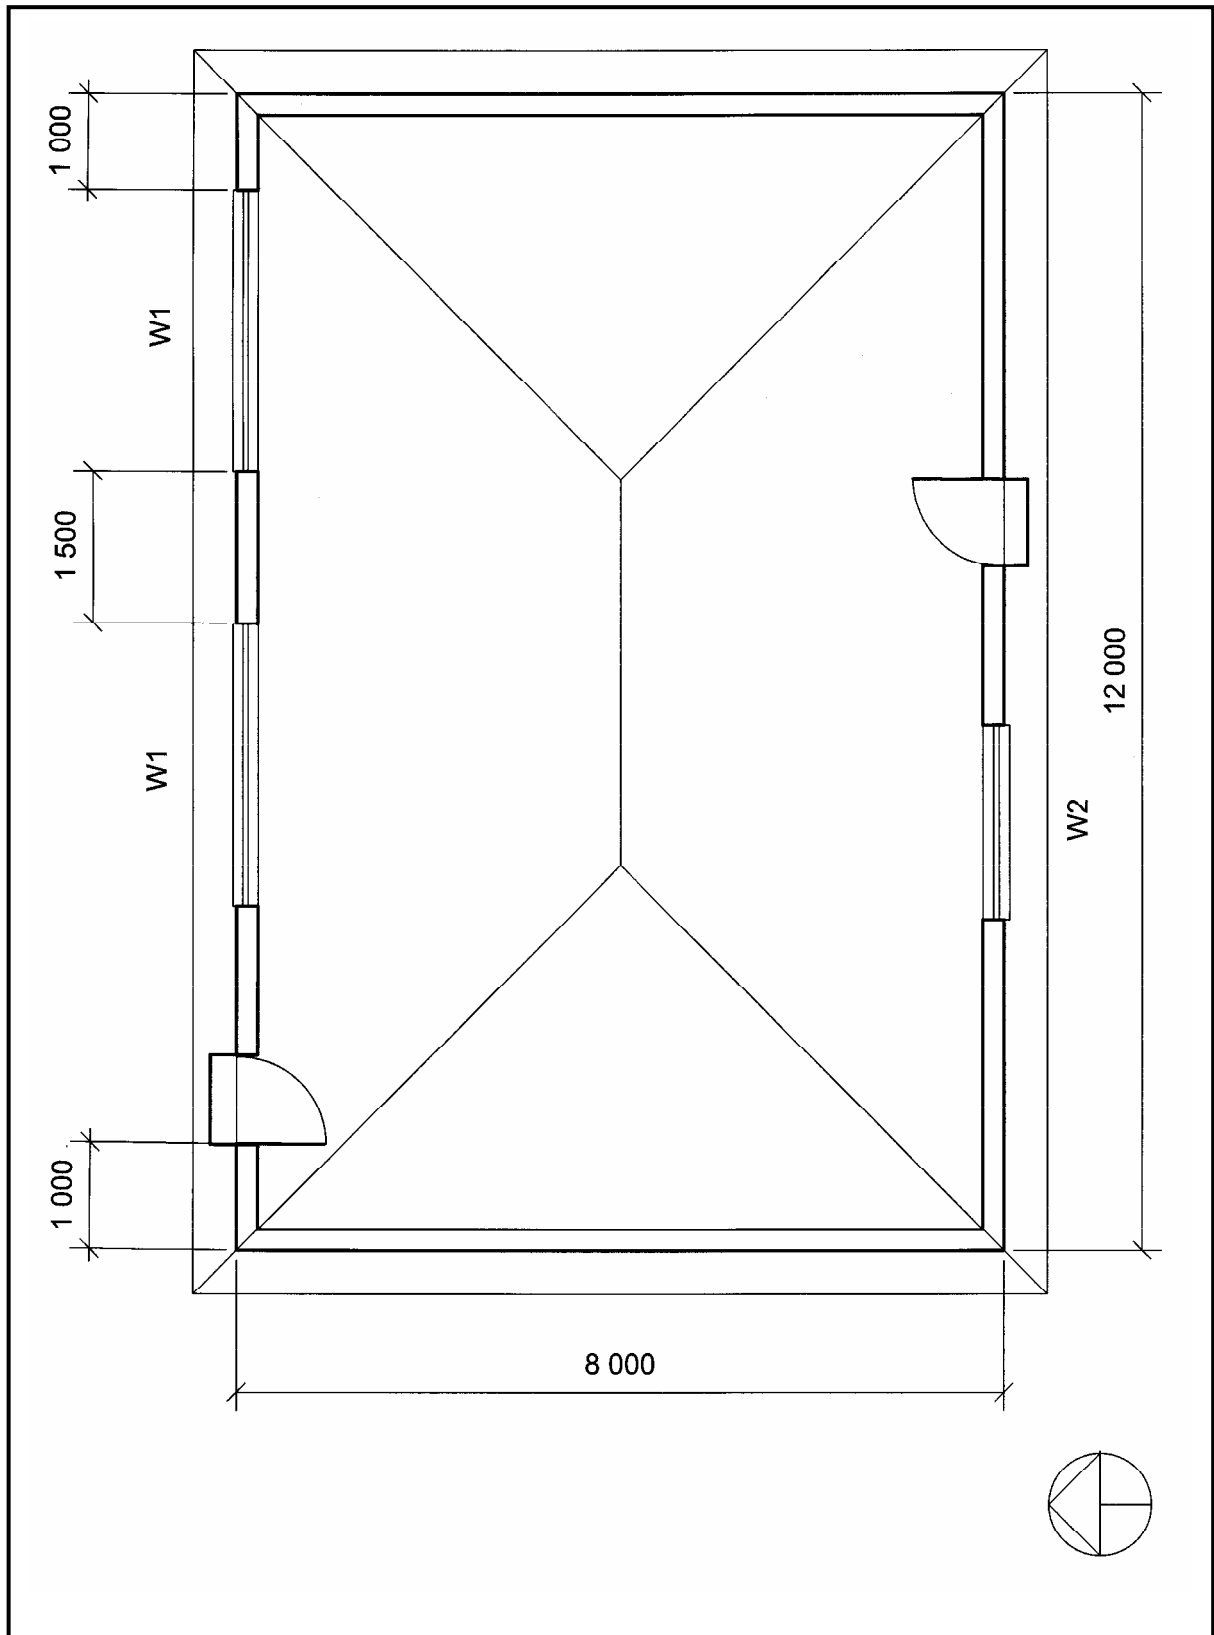

FIGURE 6.2
6.2 FIGURE 6.2 below shows the floor plan of a proposed building. Draw to scale 1 : 50 on ANSWER SHEET 6.2 the NORTH ELEVATION of the building. Use the specifications as indicated on the next page.